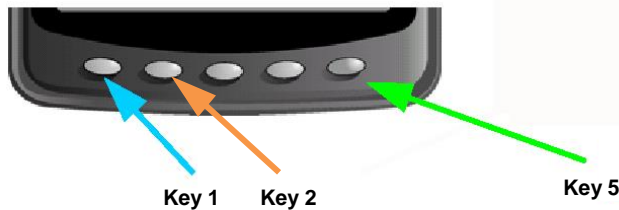

Figure 5.1: 'Soft' Keys
Pressing the key 5 (see figure 5.1) when the menu icons are not on display will bring up the lighting and contrast menu.